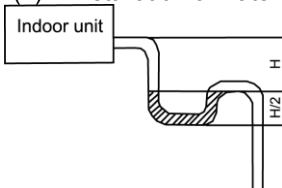

Fig. 4.21
- (4). When the drain hose cannot keep a sufficient gradient, it is necessary to fit a riser pipe (field supplied) to it.
- (5). If the air flow of indoor unit is high, this might cause negative pressure and result in return suction of outdoor air. Therefore, U-type water trap shall be designed on the drainage side of each indoor unit. (Fig. 4.21)
- (6). Install one water trap for each unit.
- (7). Installation of water trap shall consider easy cleaning in the future.